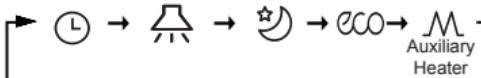

Figure 6.11
- Press **F** (Function) button to go to the function setting, and the display on the wired controller will show in turns: " ", " ", " ", " ", " " (reserved). Alternatively, you can press **▲** and **▼** buttons to switch to the selected function. (see Figure 6.11)